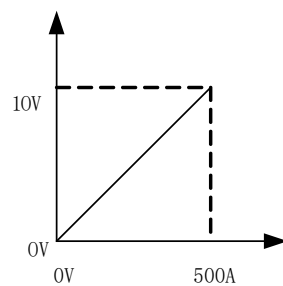

Figure 4-7 Signal equivalent circuit
3. The corresponding relationship between actual set current value of welding machine and analog receiving value of welding machine, as shown in Figure 4-7;